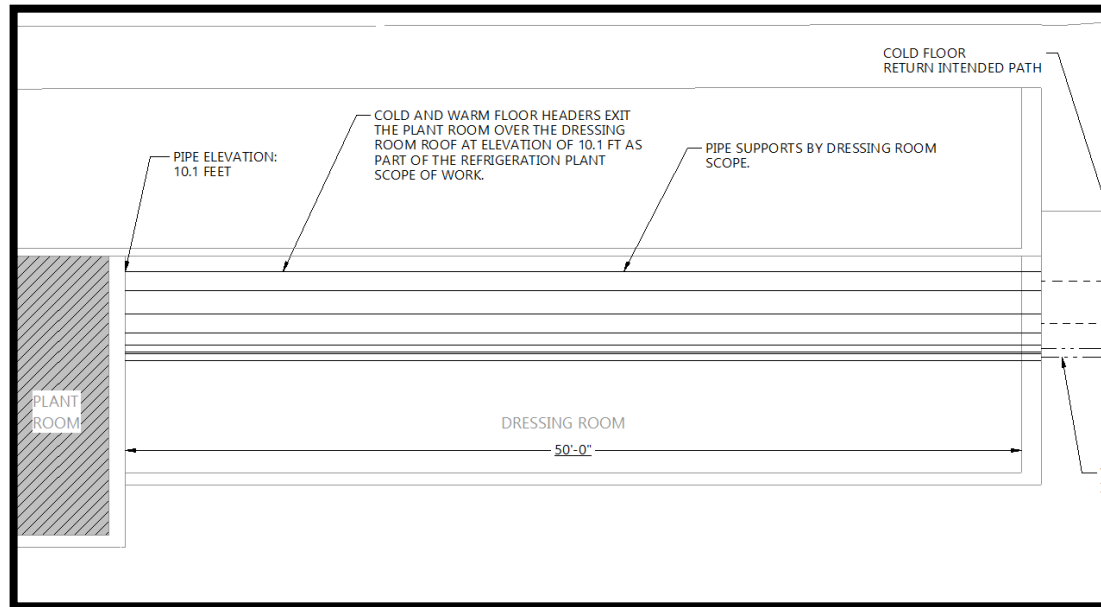

Figure 3: Dressing Room Excerpt
- .1 The piping is to exit the plant room at the elevation of 10.1 feet and extend for the full length of the dressing room, which is 50 feet. See Figure 3 below.